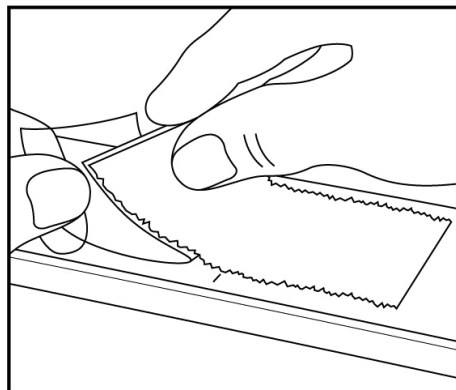

Fig.32
2. Center the black Velcro patch over the mark, peel off the protective backing and press firmly into place (Fig.32).